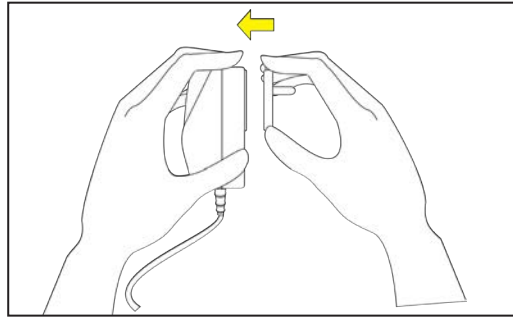

Figure 14. Installing the outlet plug adapter.
STEP 3. Install the proper power outlet plug adapter onto the ac adapter. See Figure 14 on page 16.